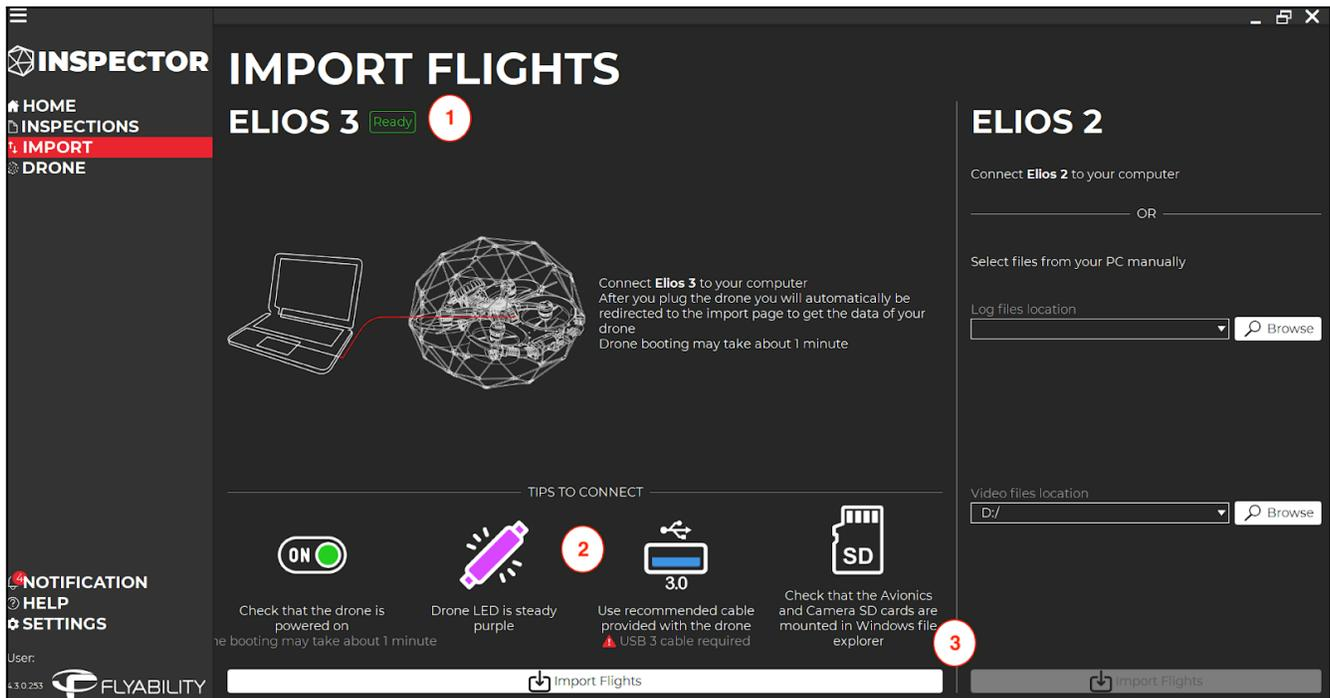

Figure 5: Inspector 4 Import Screen before connection
This is where the connection process between the drone (Elios 2 and Elios 3) and your computer is described, as shown in figure 5 as (1).
Here you will find the tips related to the drone connection, as shown in figure 5 as (2).